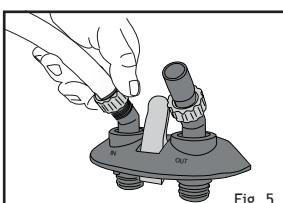

Fig. 5
11. Push one end of the hose down onto the hosetail and screw the collar up (anticlockwise) over the hose. Repeat for second hosetail. Do not overtighten, hand tight is sufficient. Fig 5